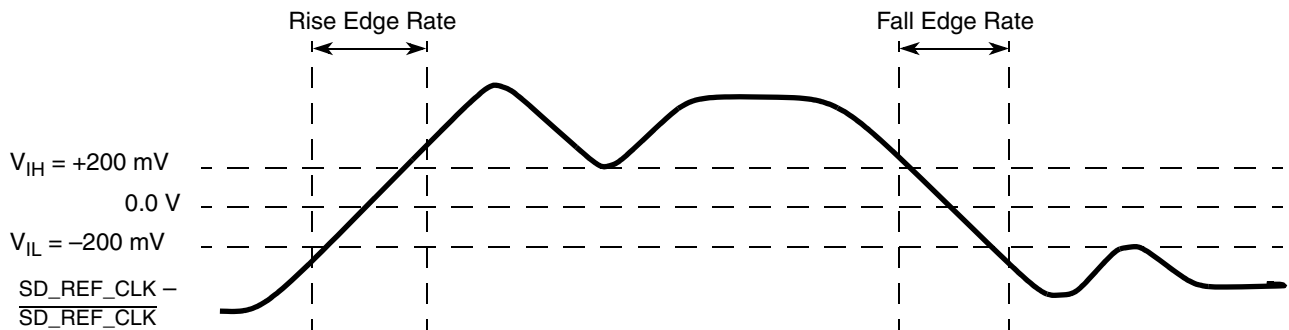

Figure 43. Differential Measurement Points for Rise and Fall Time
The differential waveform is constructed by subtracting the inverting signal ($\overline{SD_TX}$, for example) from the non-inverting signal (SD_TX , for example) within a differential pair. There is only one signal trace curve in a differential waveform. The voltage represented in the differential waveform is not referenced to ground. See Figure 43 as an example for differential waveform.
- Measured from -200 mV to +200 mV on the differential waveform (derived from SD_REF_CLK minus $\overline{\text{SD}}_n$ _REF_CLK). The signal must be monotonic through the measurement region for rise and fall time. The 400 mV measurement window is centered on the differential zero crossing. See Figure 43.